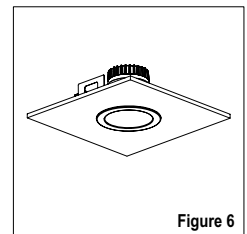

Figure 6
9. Restore power at the source. The installation is complete. (See Fig. 6)